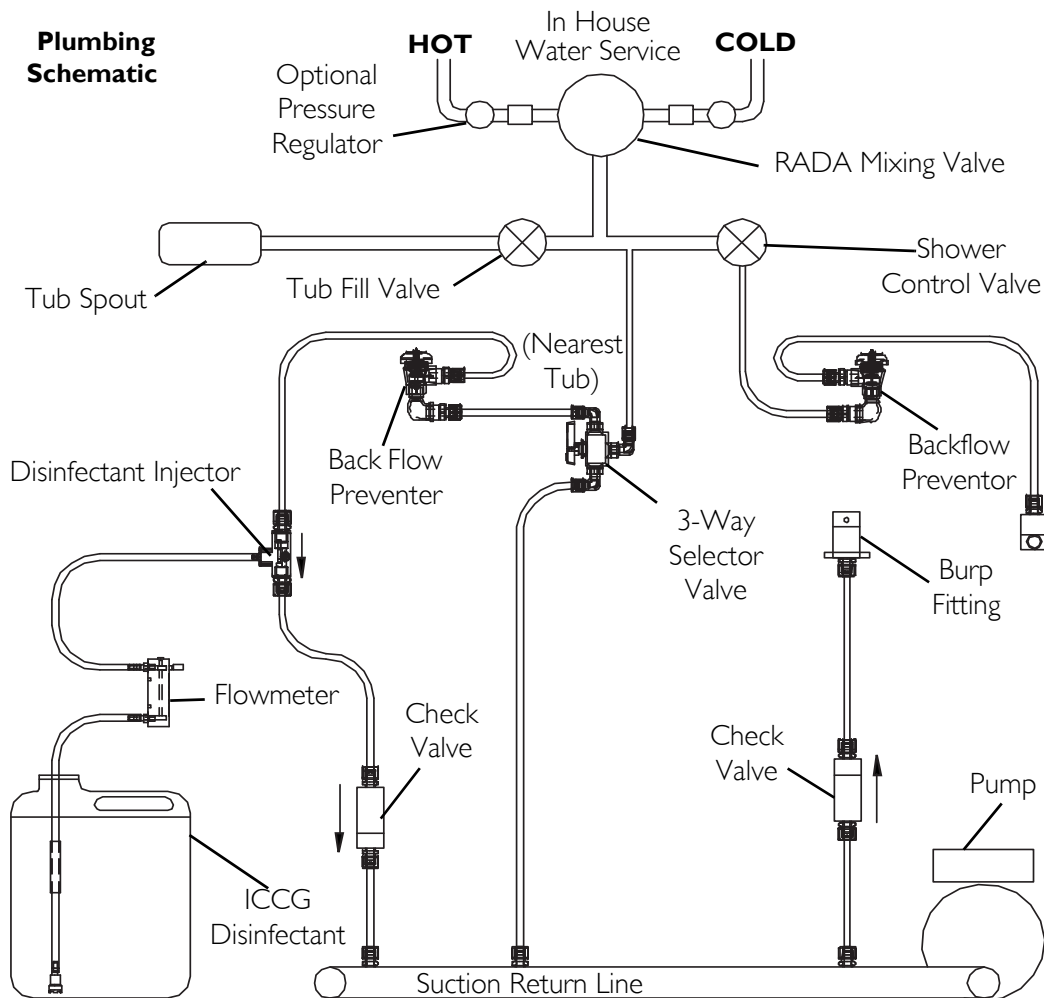

FIGURE 2.7 Plumbing Installation
7. Connect hot and cold supply lines to ¾-inch copper pipes found on back of tub in accordance with applicable building codes (FIGURE 2.7).